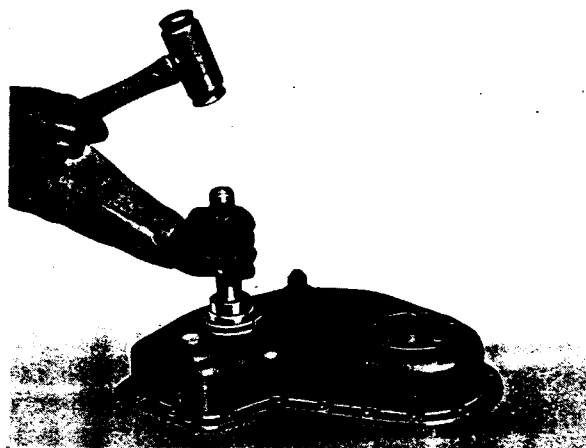

FIG. 127.
1. The crankshaft front oil seal situated in the timing cover can now be removed with the aid of Service Tool FT.44B and Universal Handle No. 550. See Fig. 127.